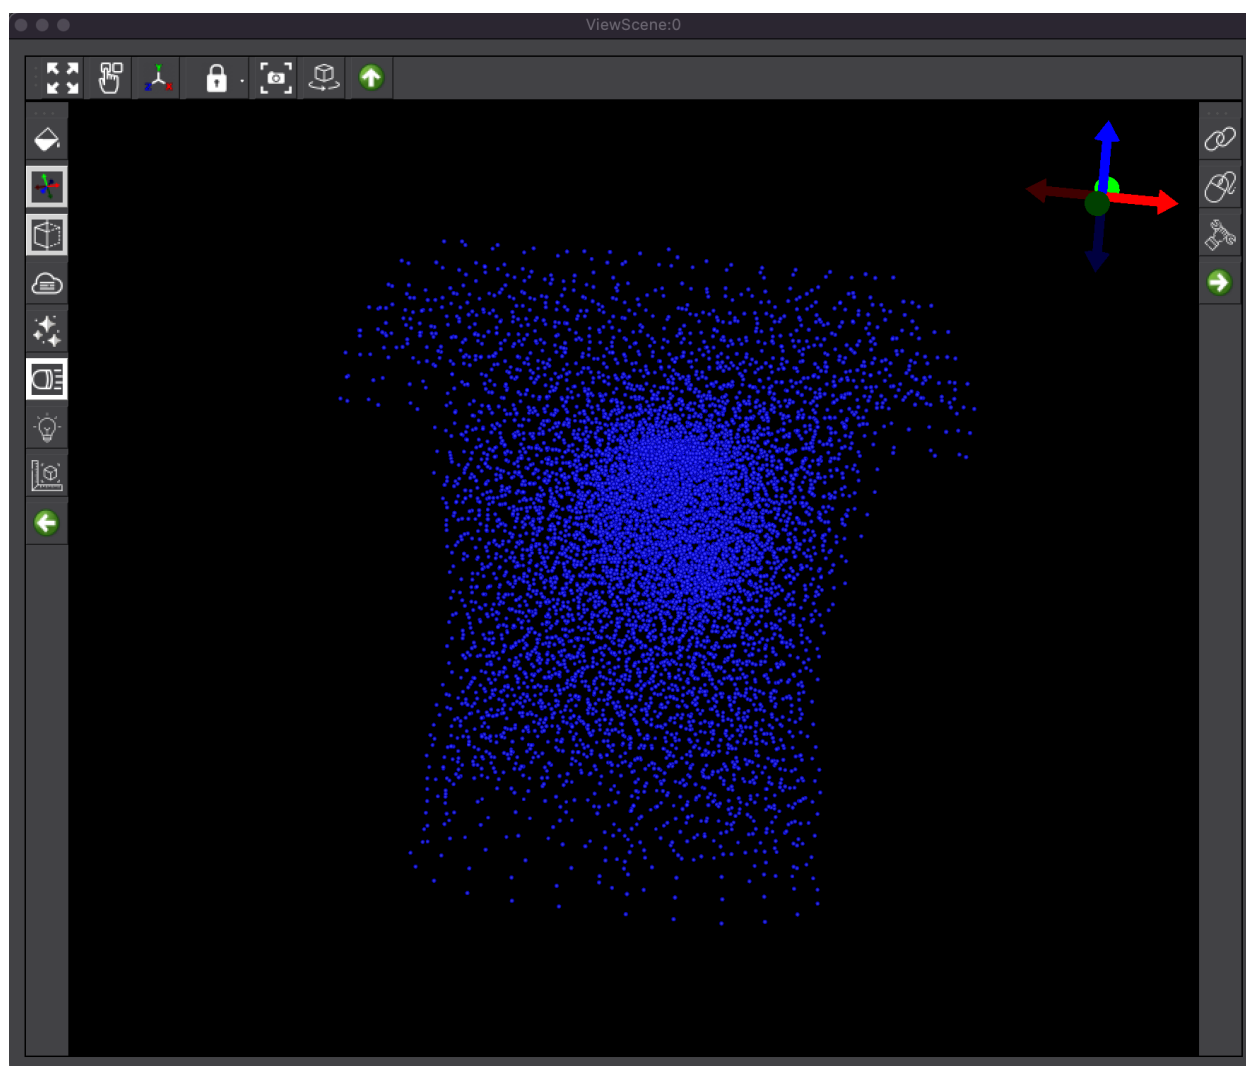

Fig. 3.10: ViewScene window showing the utahtorso-lowres-voltage data
4. In the **ViewScene** window, there is a set of axes, representing X, Y, and Z directions. To make all of geometry piped to the viewer visible, press the Autoview button located on the top menu of the window. (Note: any time the view is changed (scaled, rotated, or translated), and you want the viewer to re-display everything in the center of the screen, use the Autoview button.) At this point, the utah-torso voltage Field should appear in the **ViewScene** window. It should appear similar to Fig. 3.10, but will be somewhat different as the figure has been scaled and rotated.